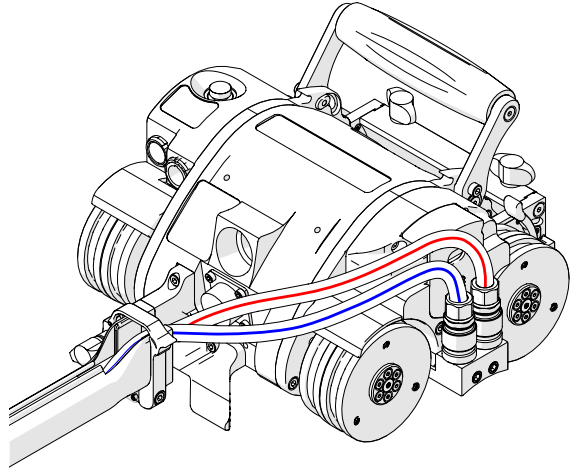

Fig. 170 - Hose routing to crawler
2. Route the hoses through the HT cable management system and connect to the cooler (Fig. 170).